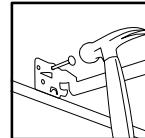

Figure 3
Step 1. Extend bar hangers to fit between joists. Bar hanger foot is contoured to easily align with bottom of joist (Fig. 2). Position fixture by hammering Real-Nails® into joists (Fig. 3).